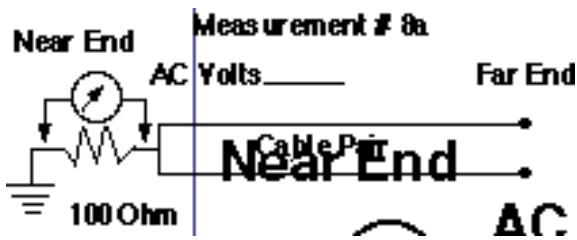

Figure 7: Measurement #8a
- (c) An AC voltmeter and a 100 ohm, 2 watt resistor can be used instead of an AC milliammeter to make the above measurement. Substitute the 100 ohm resistor for the milliammeter and measure the AC voltage drop across the resistor. This will be measurement # 8a (See Figure 7). In this case, the AC voltage reading divided by 100 equals the AC current flow to ground (Ohm's law). Any reading of more than 0.5 volts means more than 5 milliamperes. As with measurement #8 possible inductive interference problems may exist and an INT may be required.